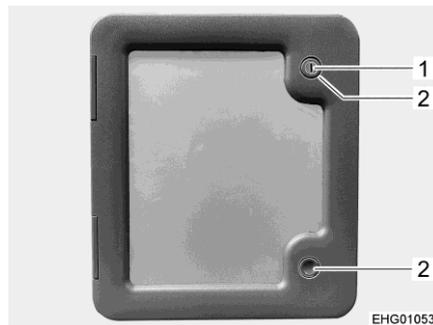

Fig. 111 Flap (sewage container)
- Open the flap for the sewage container on the outside of the vehicle. To do this, insert the key into the locking cylinder (Fig. 111,1) of the push-button lock and turn it half a turn in an anticlockwise direction.
- Press both push-button locks (Fig. 111,2) at the same time and open the external flap.